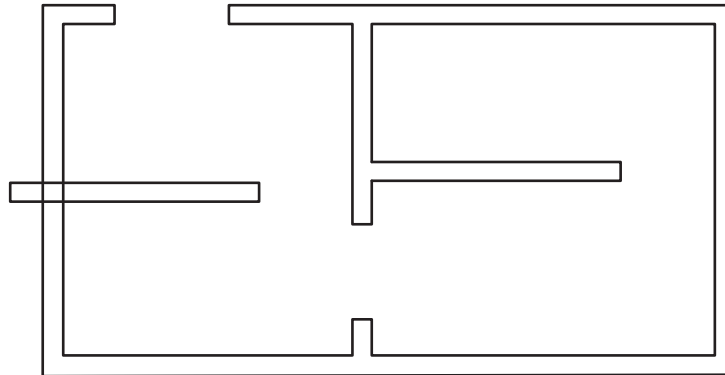

Fig. 18-7
5. Reenter the **MLINE** command and create another wall, as shown in Fig. 18-7.